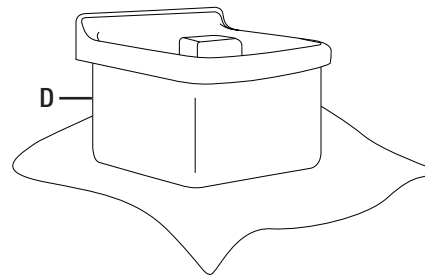

Fig. 1
- Remove the utility sink (D) and place it on a soft, protective surface (Fig. 1).
- Gently place the cabinet (A) onto its back on a soft, protective surface.